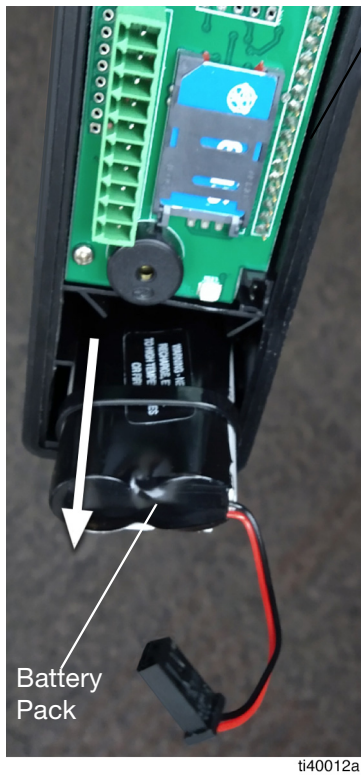

FIG. 10
4. Slide the battery pack forward to remove (FIG. 10).